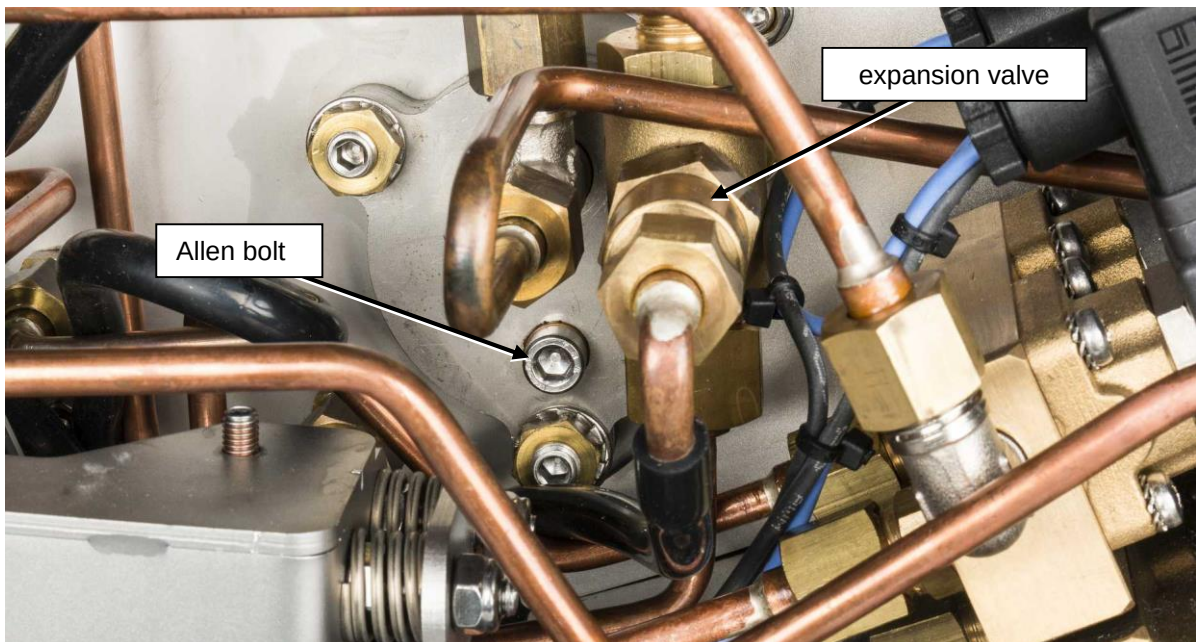

Figure M 23. Showing Allen bolt to remove for draining heat exchanger.
20. Remove the Allen bolt on heat exchanger with Allen key 5 mm (see *Figure M 23*). This bolt is sealed with Loctite and may need some torque to loosen.